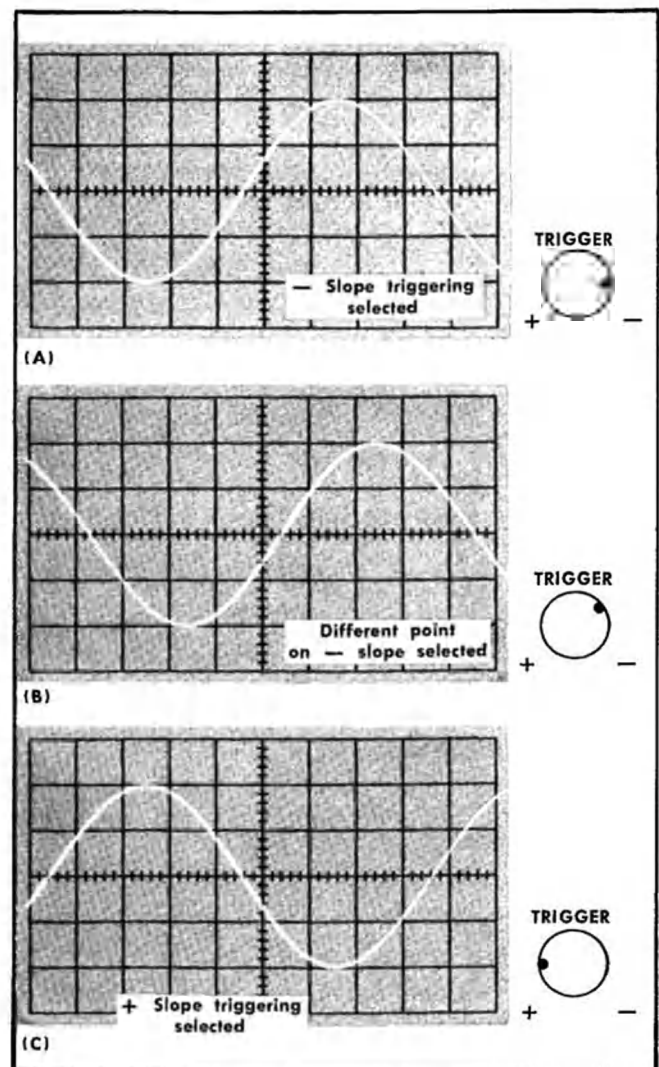

Fig. 2-7. Selection of triggering point.
22. Push the  $\times 10$  VERT GAIN control in and set the VOLTS/DIV knob to .05. Connect the P6049 Probe to the VERT INPUT connector. Then connect the probe tip and ground lead across the output of a low-frequency sine wave generator. Set the generator for a 2-V peak-to-peak, 60 Hz output. Observe a sine wave which is 4 divisions peak-to-peak. Note that the beginning of the waveform has a negative (decreasing) slope. See Fig. 2-7(A).
the sweep is again triggered by the negative change in signal level. Continue the counterclockwise movement of the TRIGGER control and note that triggering occurs at progressively more positive points of the waveform. See Fig. 2-7(B). Continue the rotation through the control center position. The trace will disappear or become unstable, then reappear, being triggered by the positive change in signal level. See Fig. 2-7(C). Leave it in this position. (Either AUTO or manual trigger selection may be used in normal operation, as determined by the application and the operator's preference. It is suggested that AUTO be used in most applications, switching to manual when necessary to improve stability, increase the low-frequency triggering range, or to change the triggering point.)